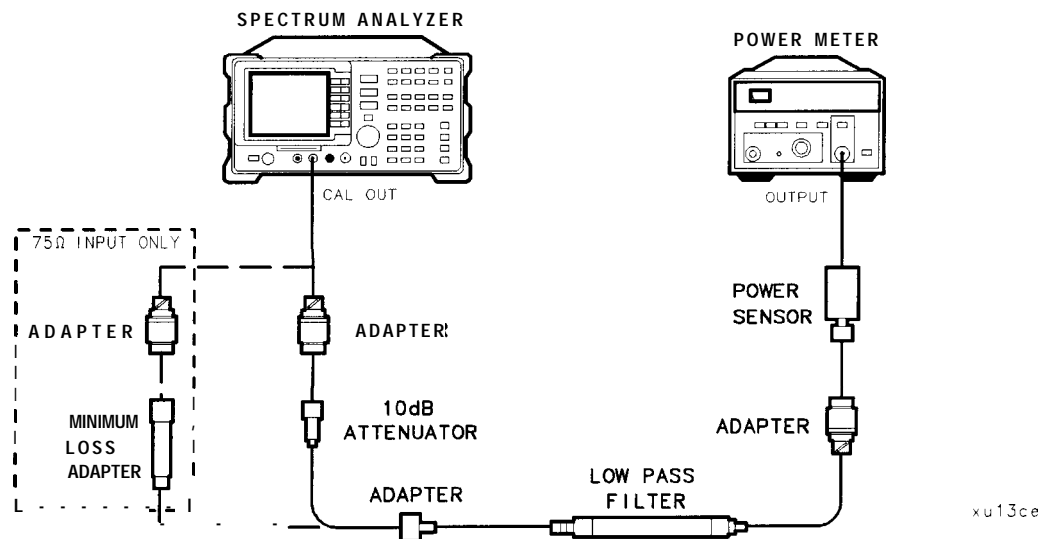

Figure 2-25. Calibrator Amplitude Accuracy Test Setup
1. Connect the equipment as shown in Figure 2-25. The spectrum analyzer should be positioned so that the setup of the adapters, LPF and attenuator do not bind. It may be necessary to support the center of gravity of the devices.